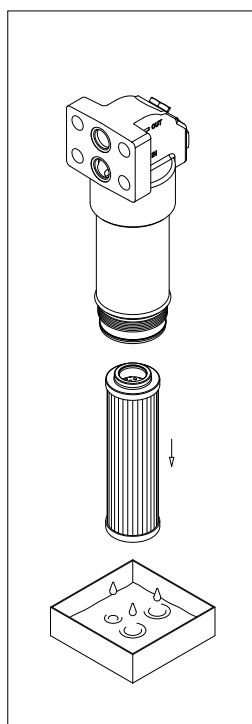

fig. 27
- (Fig. 27) Pull the filter element out. Remove all the seal from the bowl and the filter element and prepare the spare parts referring to the list in paragraph 12